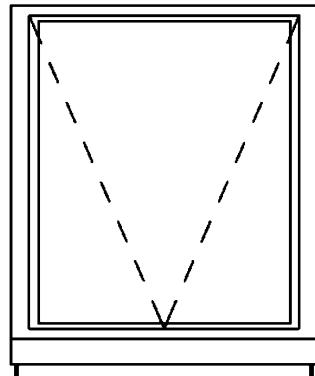

FIGURE 8-4.5 Enlarged skylight view – revised
15. Drag on the *Move* icon to position the skylight tag so the tag does not overlap the skylight (Figure 8-4.5).